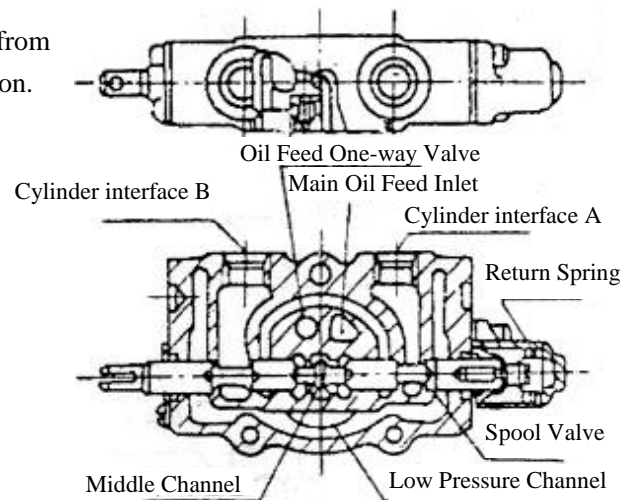

Fig 7-2
(1) Neutral Position (Fig 7-2)